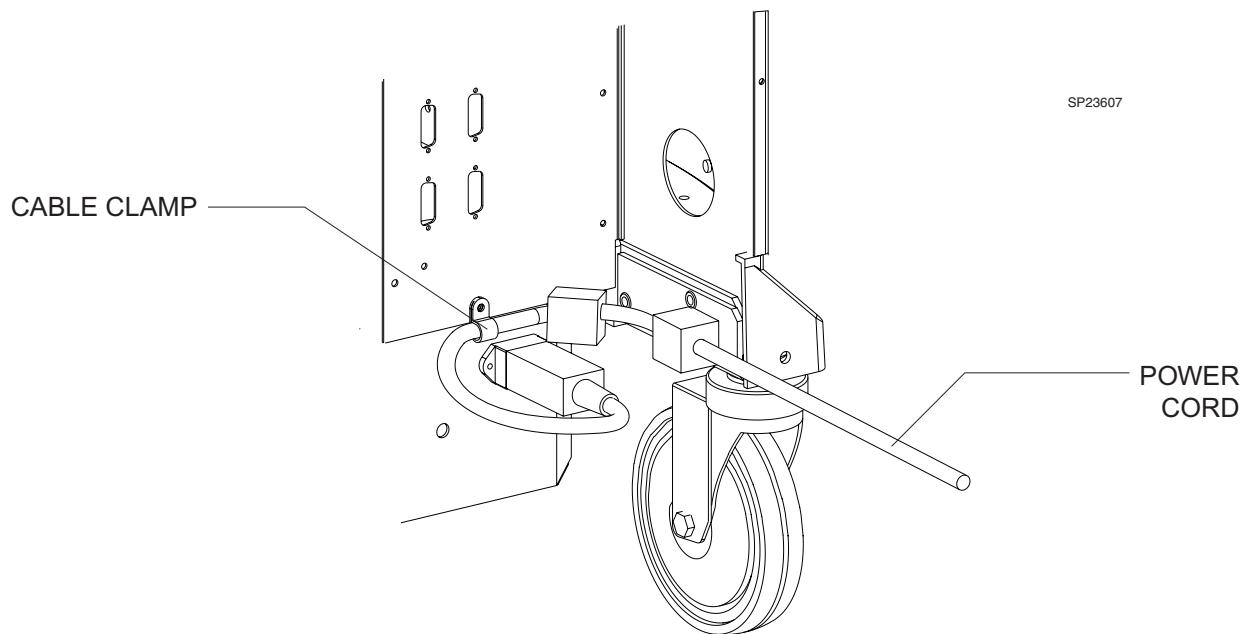

FIGURE 7. Power Cord Routing
- 1.27 Route the power cord's strain relief with a loop in a clockwise direction. The retaining clamp shall be located 17 inches (5 $\frac{1}{4}$ in. diameter) from the cord end, and secured to the Vitalbus Hub door using the mounting hole directly above the power cord socket as shown in FIGURE 7.
- 2.10 Route the power cord strain relief with a loop in a clockwise direction. The retaining clamp shall be located 17 inches (5 $\frac{1}{4}$ in. diameter) from the cord end, and secured to the Vitalbus Hub door using the mounting hole directly above the power cord socket as shown in FIGURE 7.